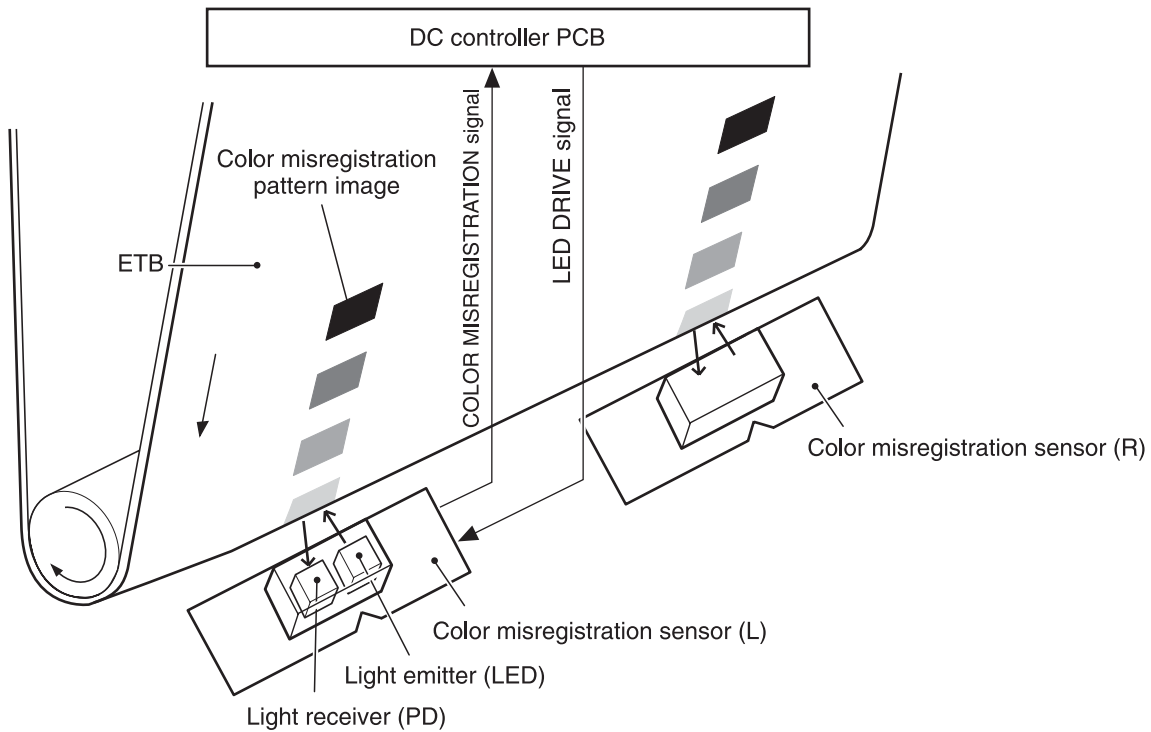

Figure 5-34 Image density detection
Each of the image stabilization controls uses the color registration unit at the top of the ETB to measure image density. The image density detection is performed by the DC controller, which controls the color misregistration unit during the DHALF control. The color misregistration unit is placed under the ETB and consists of two detection sensors, each having one light emitter (LED) and one light receiver (PD). Figure 5-34 Image density detection on page 180 illustrates this process.